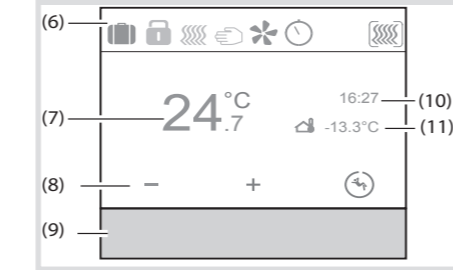

Figure 3: Basic display
The set temperature is defined by the operating mode and can be changed via the menu **operating mode** - holiday mode or settings. The selected operating mode, current time and measured room temperature are indicated in the display as an example (figure 3). The display contents can be represented in different ways depending on the setting. The upper status line symbolically represents the status of the device currently set (6).